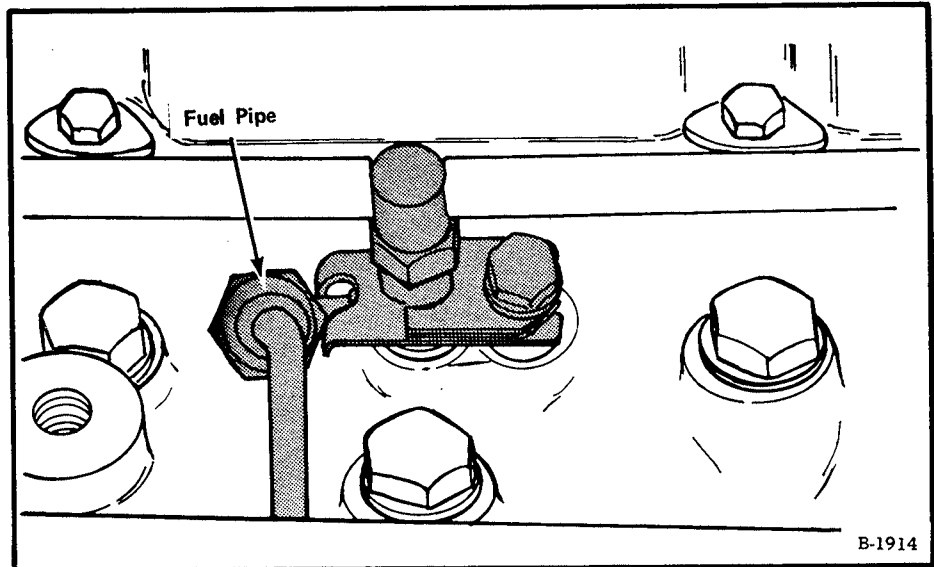
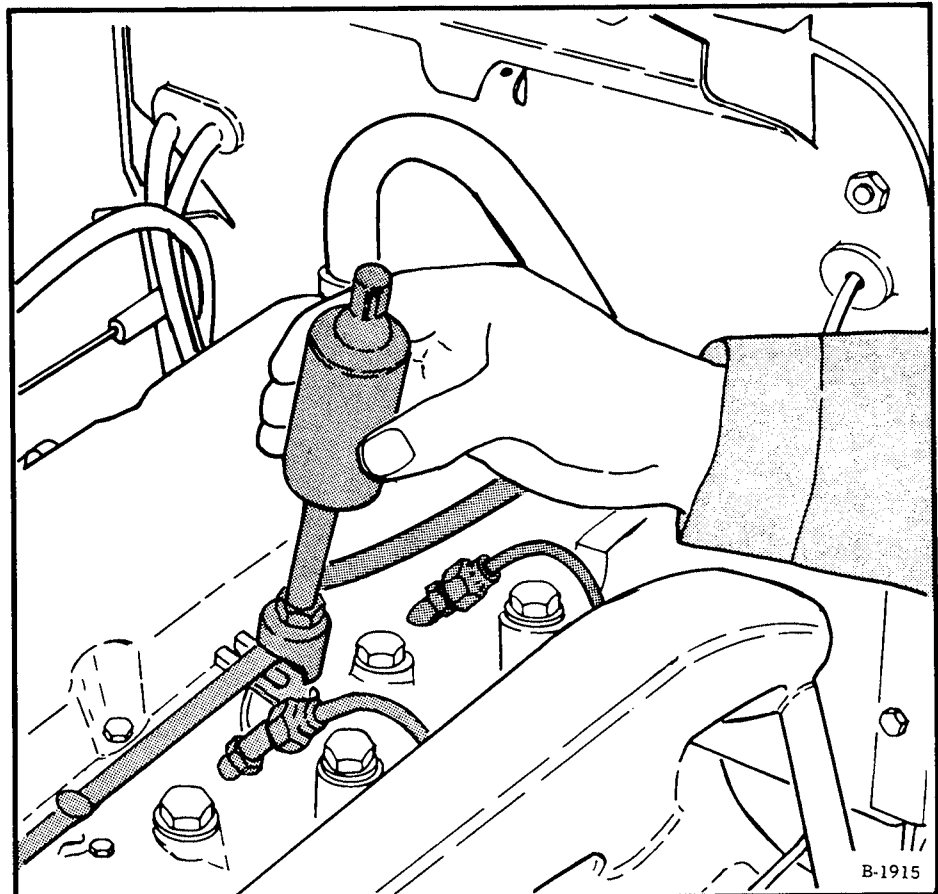

Fig. 8-55 Injector Installed
Fig. 8-56 Removing injector
- (1) Disconnect nozzle from fuel pipe at connector, using two wrenches (Fig. 8-55).
- (2) Disconnect leak-off pipe from nozzle, by pulling off hose connectors.
- (3) Remove nozzle hold-down bolts, washer clamp and spacer.
- (4) Remove injection nozzle (Fig. 8-56).